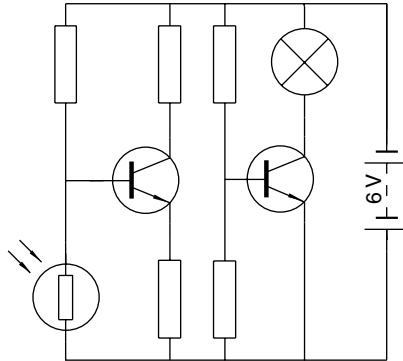

Fig. 9.19 Using the DesignCenter – the completed circuit
Using the DesignCenter (Fig. 9.19)
6. Complete the circuit drawing as shown in Fig. 9.19.
Fig. 9.19 does not represent an authentic electronics circuit.